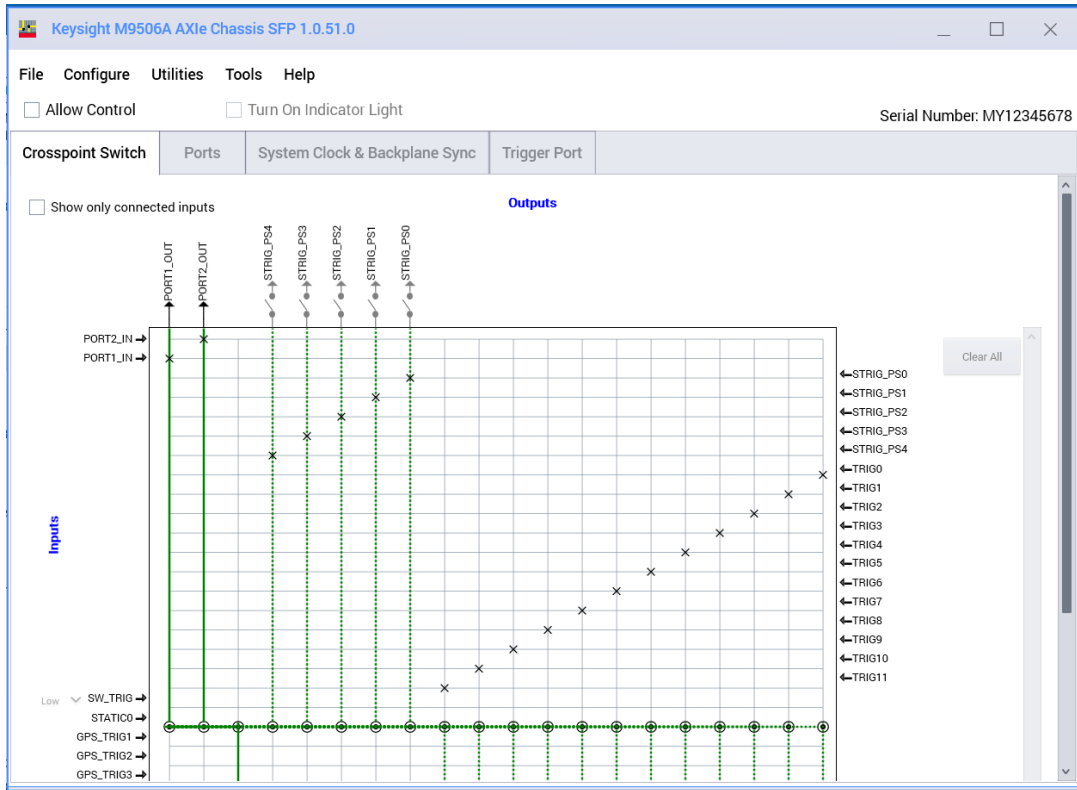

Figure 7. Trigger SFP
- The triggering SFP provides an interface to the chassis triggering subsystem and simplifies triggering setup. The trigger SFP is shown in Figure 7.